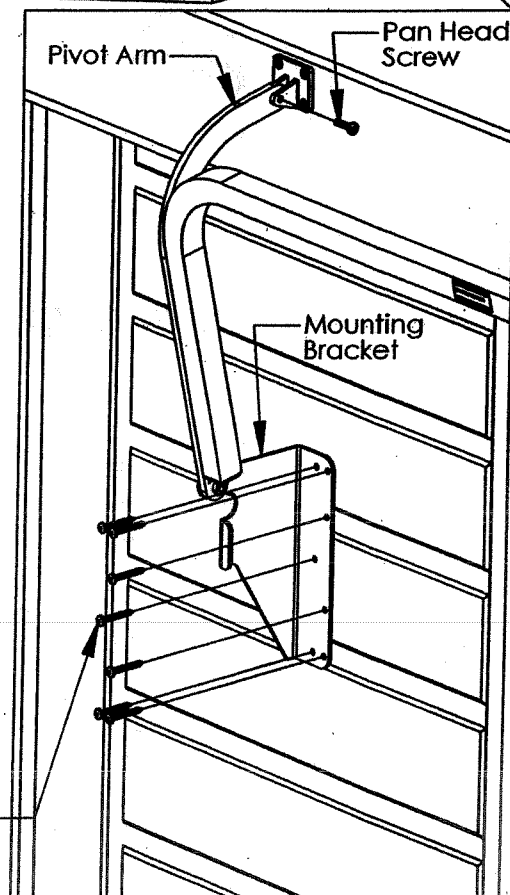

FIGURE 6
- B. Slide the Pivot Arms into the Rear Hinges on the back of the Spa Cover as shown in Fig. 6 and reinsert Pan Head Screw through the Pivot Arm and rotate the entire Pivot Assembly down so that the Mounting Bracket rests against the spa. Rotate the Mounting Bracket so it rests flat against the spa panel.
- D. Locate (14) #10 x 1 1/2" Pan Head Screws from Hardware bag #2 (Use 2" Pan Head Screws, from Hardware bag #3, if the spa has removable panels, see page 2) and install through each hole in the Mounting Brackets as shown in Fig. 6.